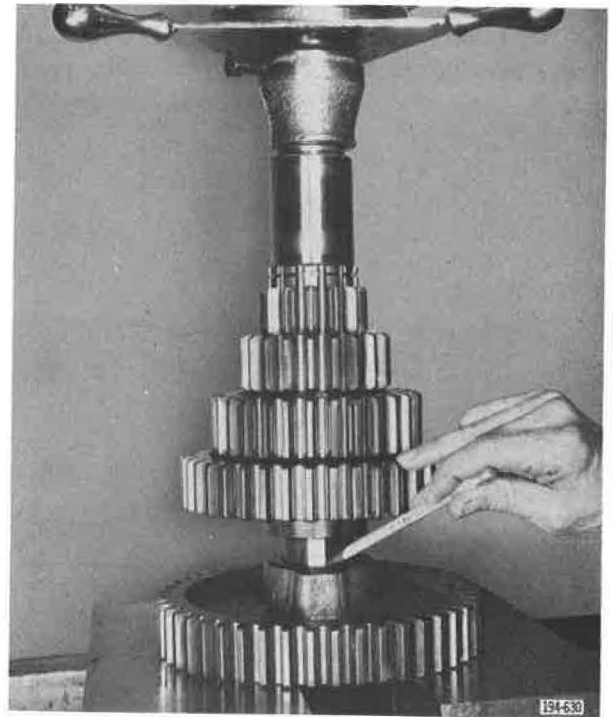

Figure 5-899. Pressing Gears onto Countershaft
4. Repeat procedure with remaining gears. Fourth speed gear hub to be toward front (away from third speed gear). Main drive gear (fifth speed gear) hub to be toward rear (next to fourth speed gear hub). See Figure 5-899.